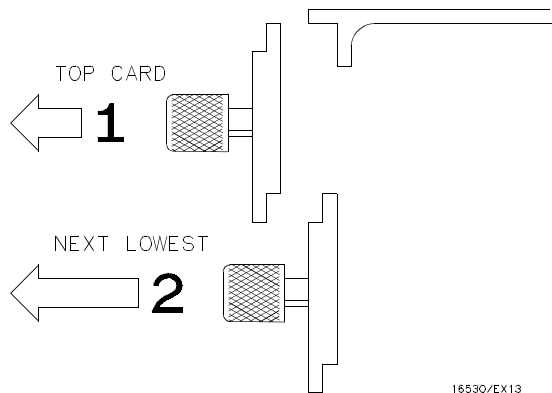

Figure 6-11. Endplate Overlap
- c. Starting **from the top**, begin pulling card(s) and filler panel(s) out **half way**. See figure 6-11.